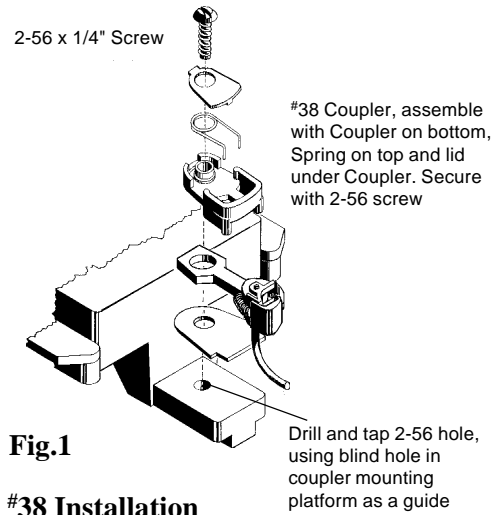

Fig.1
3. Assemble the #38 Coupler with coupler on bottom, Torsion Spring on top and lid under coupler, as shown in Fig. 1. Install coupler, align and secure with a 2-56 screw.